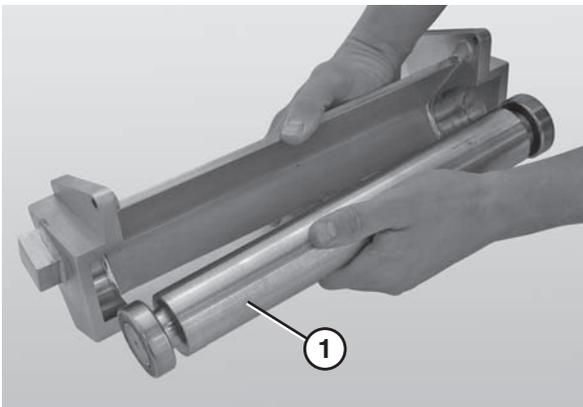

Figure 85
6. Remove the nose bar return spindle (**Figure 85, item 1**).